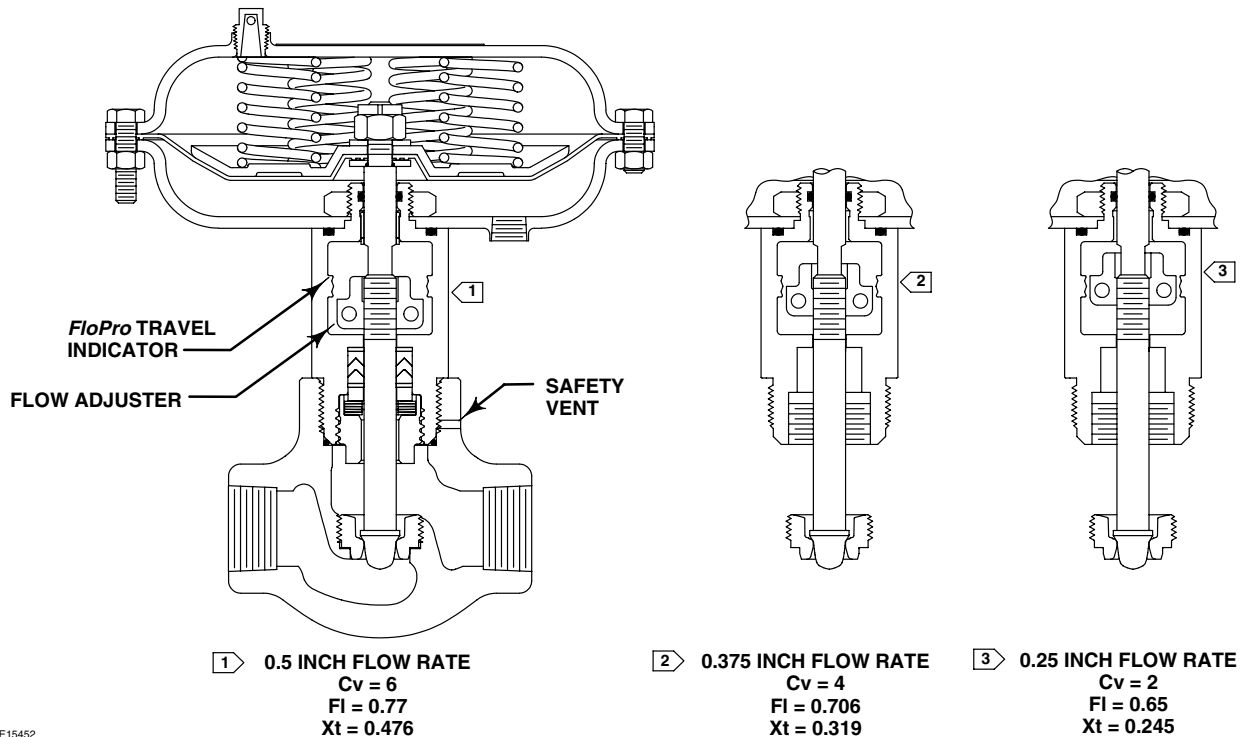

Figure 2. Flow Rate Adjustments
1. To change the valve flow rate, loosen the flow adjuster socket head cap screws (key 29), and reposition the flow adjuster halves (key 14 and 15) to the desired flow rate position. See figure 2 for flow rate settings.
2. To change the valve flow rate, loosen the flow adjuster socket head cap screws (key 29), and reposition the flow adjuster halves (key 14 and 15) to the desired flow rate position. See figure 2 for flow rate settings.
Avoid personal injury from sudden release of process pressure. If the process media starts to escape from the safety vent (see figure 2) located in the bonnet neck of the valve body,
Upon reassembly, ensure that no foreign material blocks the safety vent hole as shown in figure 2. If the safety vent hole is blocked or plugged, possible personal injury from the sudden release of process pressure during maintenance disassembly may occur.
8. **For air-to-open actuator action only**, attach the pressure line to the actuator, and supply pressure to the actuator. Loosen the socket head screws (key 29) and remove the flow adjuster (keys 14 and 15). Release the pressure to the actuator. This allows the plug to find its seated position.
9. Set the flow adjuster to the desired travel position (see figure 2), and tighten the flow adjuster socket head cap screws to 3 N•m (26 lbf•in).